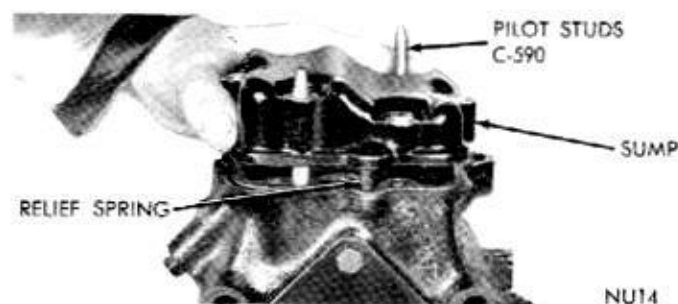

Fig. 11—Installing the Compressor Sump
(1) Remove bearing cap and install piston in bore. Use piston ring compressor to prevent ring damage.
(2) Install bearing caps, and tighten screws 50 to 60 inch-pounds. Be sure each cap is installed in its original position.
(3) Install valve plates and cylinder heads.
(4) Turn compressor upside down. Install pilot studs, gasket, oil pressure relief ball and spring.
(5) Install the sump over pilot studs (Fig. 11), making sure the oil pressure relief spring depresses uniformly as the sump is lowered on the case.
(6) Tighten sump bolts finger tight to prevent spring misalignment, then tighten 14 to 20 foot-pounds.